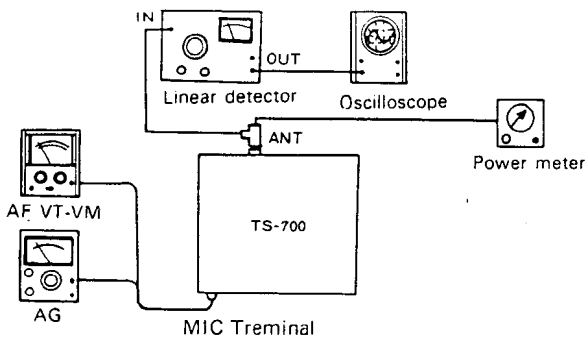

Fig. 26
- 4) Referring to Fig. 26, adjust to obtain an AG output of 2 mV and 1.5 kHz.
- 6) As shown in Fig. 26, connect the AF VTVM and audio generator (AG) to the MIC terminal